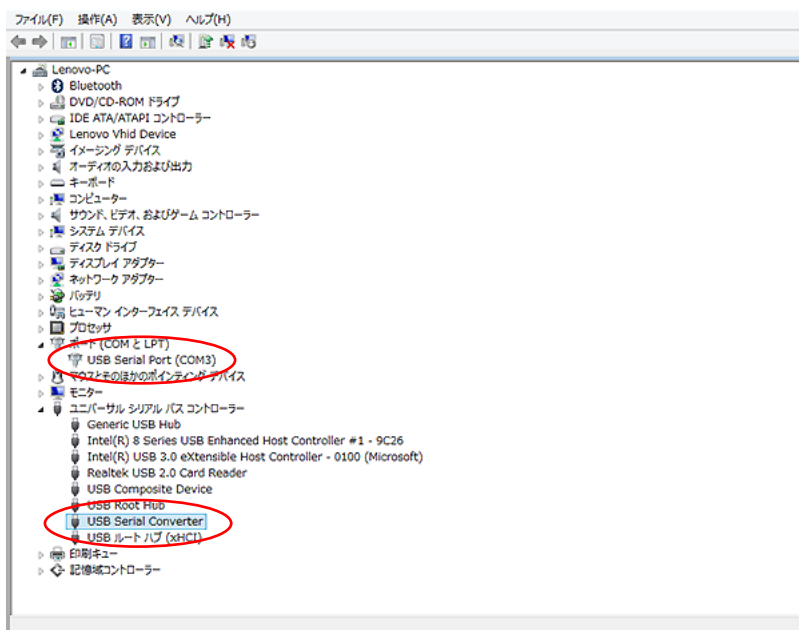

Fig. 13: Device Manager
- (7) Select [Finish] to exit the Install Wizard.
- (8) Open the Device Manager. If “USB Serial Port (COM3)” is added to “Ports (COM & LPT)” and “USB Serial Converter” is added to “Universal Serial Bus controllers” as Fig. 13., all installation is complete.